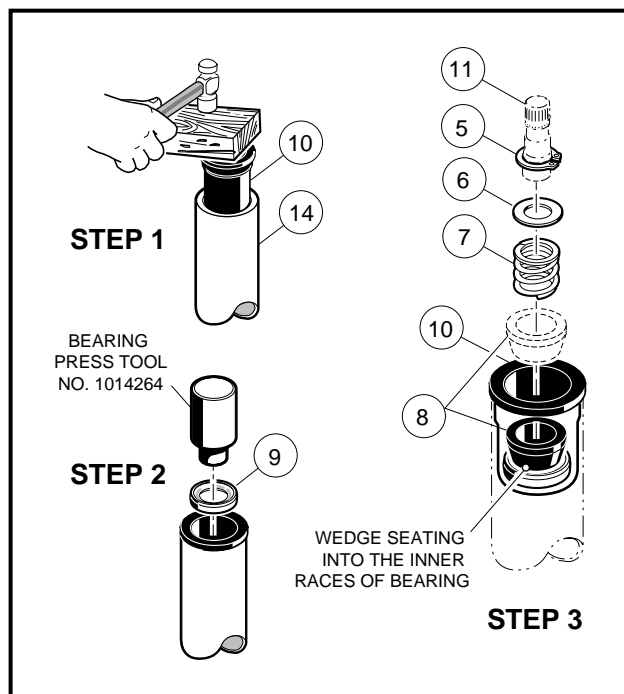
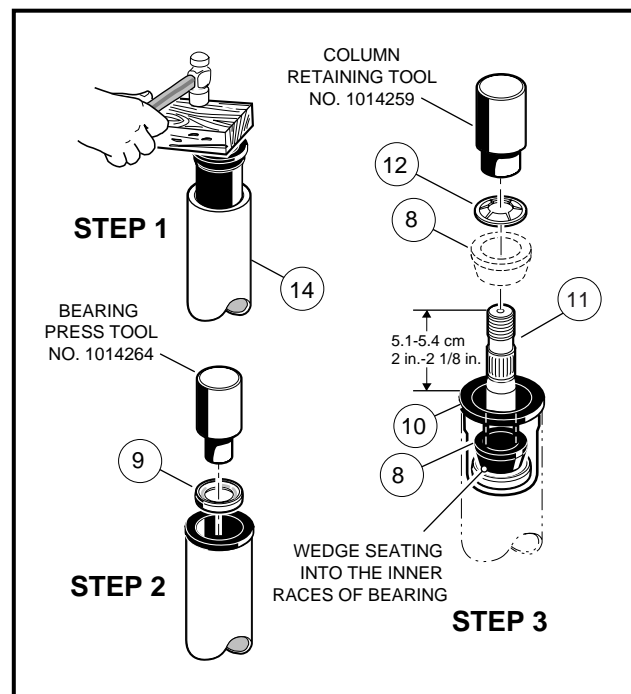

Figure 7-5 Steering Shaft – Bottom End
Figure 7-6 Steering Shaft – Top End
- Insert bearing seat (10) into both ends of steering tube (14). Place a block of wood on bearing seat and tap lightly on block until bearing seat (10) is fully seated in steering tube (14) (**Figure 7-5, Page 7-5** and **Figure 7-6, Page 7-5**).
- Press the bearing (9) all the way into the bearing seat (10) using a steering column bearing press tool (CCI 1014264) or a metal tube approximately six inches (15.2 cm) long with a maximum outer diameter of 1-3/16 inches (3.3 cm) and a minimum inside diameter of 7/8 inch (2.2 cm). Be sure the bearing is installed in the bearing seat as shown (**Figure 7-5, Page 7-5**) so the wedge (8) will ride against the inner race of the bearing.
- Install the wedge (8), spring (7), washer (6) and snap ring (5) onto the bottom end of the steering shaft (11) (**Figure 7-5, Page 7-5**).
5. Turn the assembly over and place the shaft (11) on a bench. Install the wedge (8) and retaining ring (12) onto the top of the shaft. Be sure the prongs on the retaining ring face up and away from the wedge. Use a steering column retaining ring tool (CCI 1014259) to seat the retaining ring to the proper depth. Support end of tube while pressing. If you do not have the recommended tool, use the same tube as was used in Step 2 to press the retaining ring onto the top of the shaft. The retaining ring should be pressed onto the shaft until 2 to 2-1/8 inches (5.1-5.4 cm) of the shaft extends from the top of the bearing seat in the steering tube (**Figure 7-6, Page 7-5**).